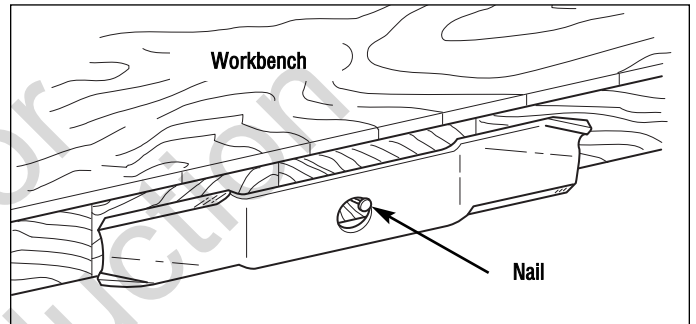

Figure 27. Balancing The Blade
5. Balance the blade as shown in Figure 27. Center the blade's hole on a nail lubricated with a drop of oil. A balanced blade will remain level.